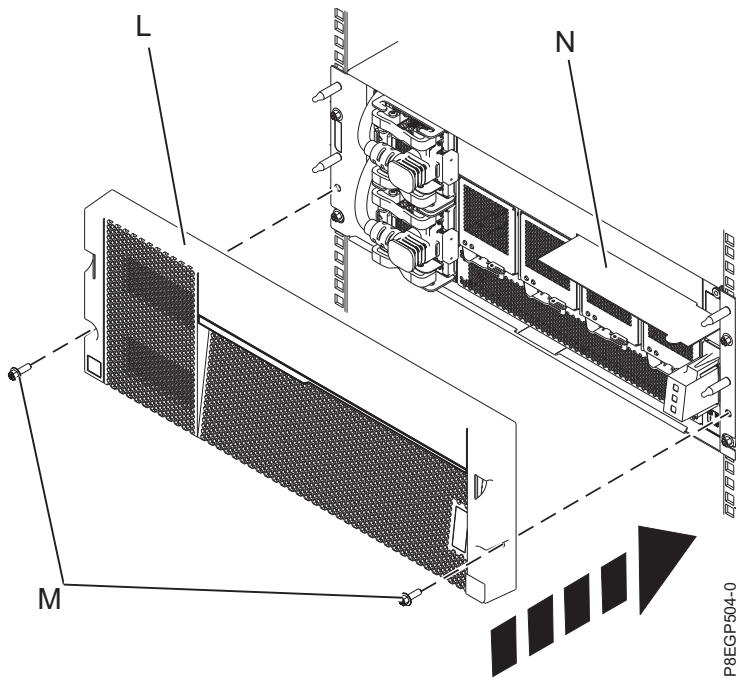

Figure 10. Installing the cover and service information card
- Install the cover **(L)** onto the drawer. Press the cover into place and secure it with two M5 screws **(M)** on the left and right rails. See Figure 10 on page 12.